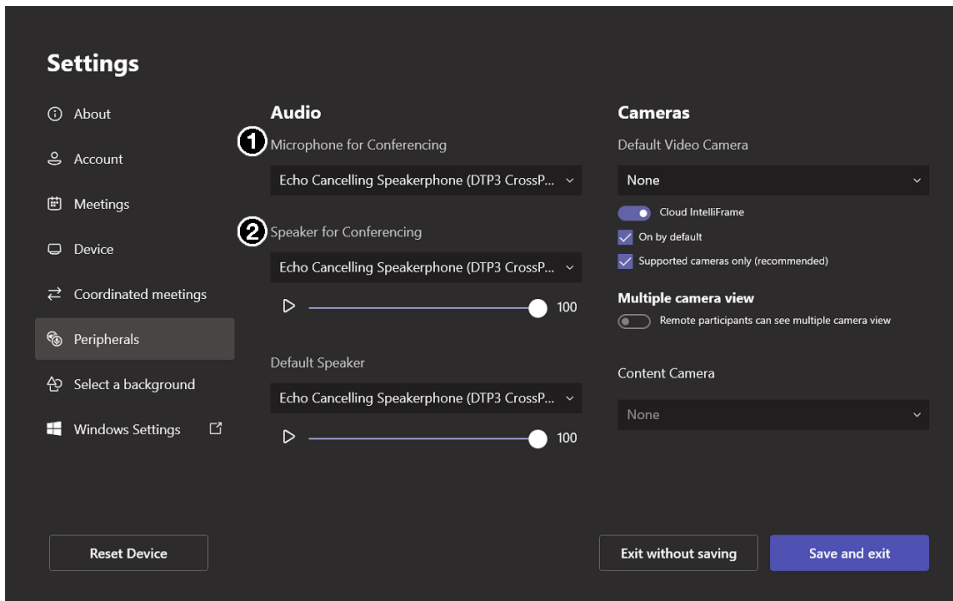

Figure 40. Microsoft Teams Rooms Interface
Select the Extron DTP3 CrossPoint 884 IPCP A (or configured USB Name in above steps) for each of the two parameters: Microphone (see figure 40, ❶) and Speaker (❷).